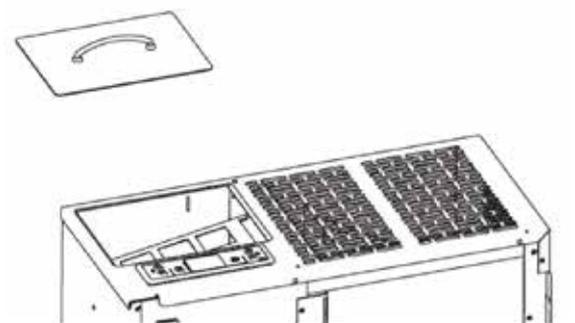

Fig. 24.
- ☞ Be sure to close the lid of the tank well after loading the pellets. The safety pressure switch (for models with outside air intake) verifies proper closure (Fig. 24) and sends an alarm if the lid is left open for more than 20 seconds with the stove running.